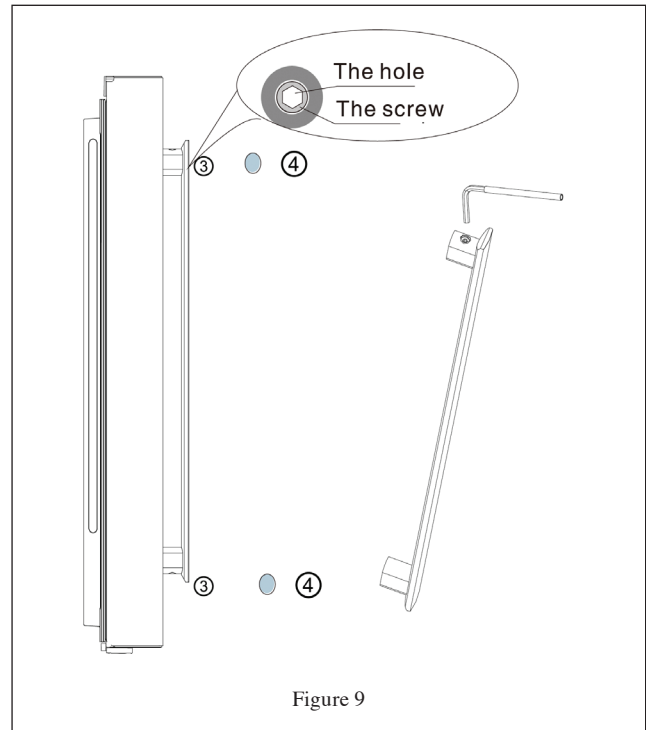

Figure 9
2. Put the handle on the door through the bolt ① and make sure the handle contact the door surface closely. See Figure 9.
3. Fix the handle by rotating the handle screw ③ to the end, then to shake the handle for verifying if it already be fixed tightly.
4. Put the cap ④ on the handle screw hole to complete this installation.